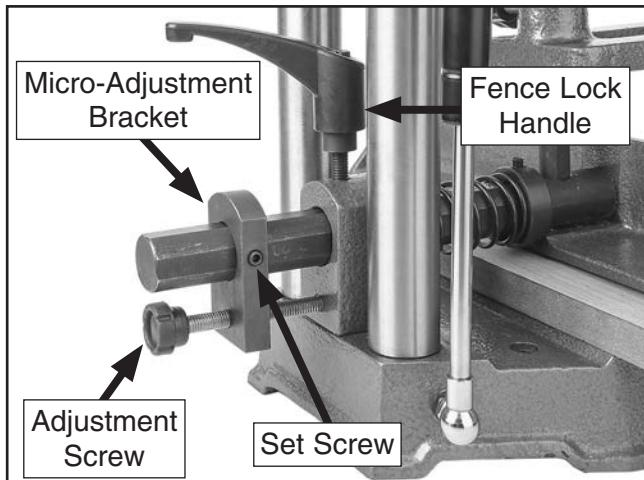

Figure 22. Fence controls.
1. Loosen fence lock handle (see **Figure 22**).
2. Loosen M6-1 x 12 set screw on micro-adjustment bracket (see **Figure 22**).
4. Slide micro-adjustment bracket forward on fence rod until adjustment screw (see **Figure 22**) contacts back of guide block.